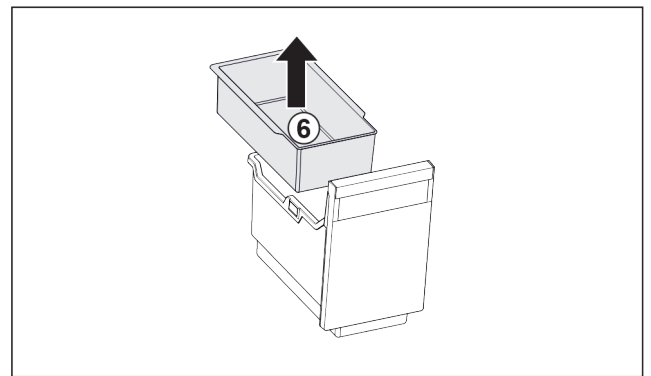

Fig. 170
- ▶ Remove the hang-on tray Fig. 170 (6).